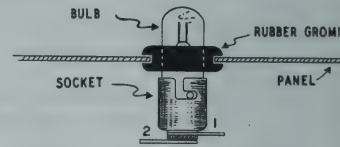
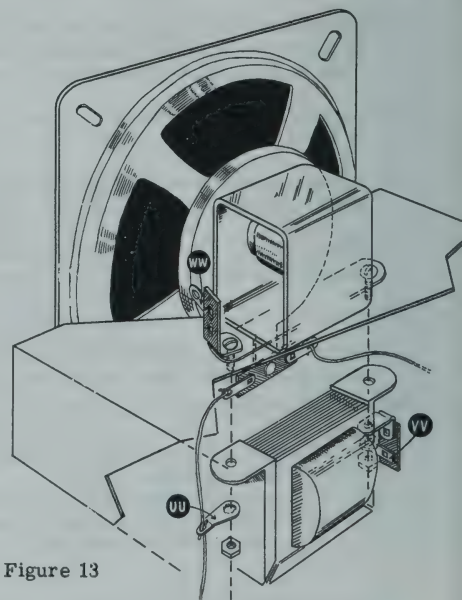

Figure 12 TOP VIEW
Figure 13
- (✓) Install #47 bulbs in each of the two pilot lamp sockets and insert the bulbs partly through each of the two grommets just installed from the rear side of the dial plate. Position the lugs as shown. See Figure 12.
- (✓) Connect the wire coming through the hole beneath the volume control VC to lug 1 on the pilot lamp SS (S).
- (✓) Connect a wire from SS2 (S) to TT1 (S).
- (✓) Connect a wire from TT2 (S) to the ground lug FF on top of the chassis near socket H (S).
- (✓) Mount the speaker and output transformer at position U as shown in Figure 13, using 6-32 hardware. The speaker is mounted above the chassis and the output transformer below. The red and blue wires on the output transformer should face the inside of the chassis and the two uninsulated wires face the speaker cutout. Mount a 1-lug terminal strip under the screw on top of the chassis holding the end of the speaker nearest the panel. Mount a solder lug under the nut on the same screw, beneath the chassis.